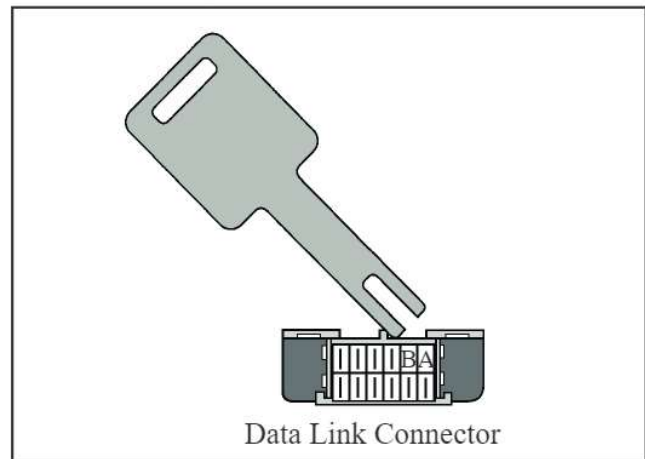

Figure 17
The provision for communicating with the PCM is the data link connector (DLC) which is located under the instrument panel (See Figure 17). The diagnostic trouble code(s) or information flag(s) stored in the PCM's memory can be read either through a hand-held diagnostic scanner plugged in the data link connector or by grounding the diagnostic terminal in the data link connector. Once terminal B (The Diagnostic Terminal) is connected to terminal A (The Internal PCM Ground)
as shown in Figure 17 above, the ignition switch must be moved to the ON position, with the engine not running. At this point, the MIL telltale lamp should flash a Diagnostic Trouble Code (DTC) 12 three times consecutively (**Remember, the MIL telltale lamp is for PCM (EC) diagnostic trouble codes or SHIFT TO D2 lamp on 1991 and 1992 vehicles. The LOW COOLANT/HOT lamp is used on 1993 and 1994 vehicles for PCM (TC) diagnostic trouble codes.**